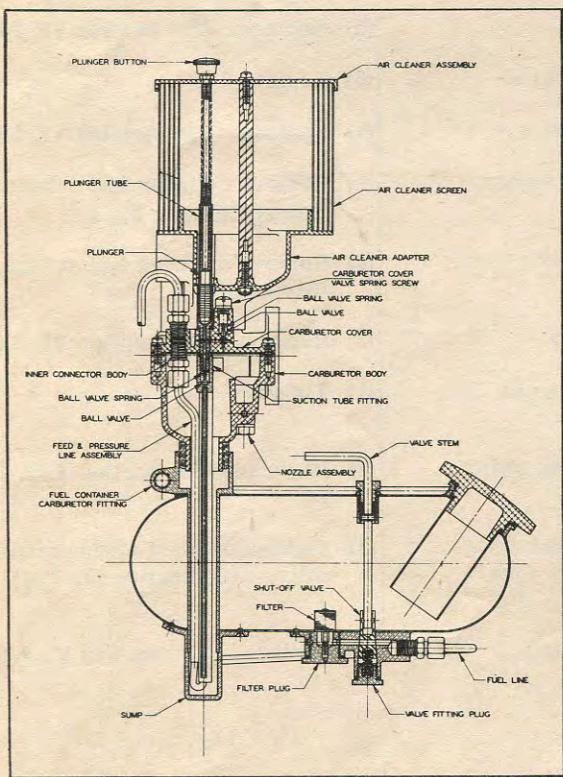

Figure 4 - Carburetor and Fuel Container Assembly
(b) Increasing the number of holes in the baffle necessitates larger drill holes in the side of the carburetor nozzle. (See figures 4 and 5.) The size of the drill hole is stamped on the hex head of the nozzle. Replace with nozzle stamped two numbers lower or drill out two drill sizes larger.
(4) Magnet. - In normal use the magnet will retain its magnetism indefinitely, and therefore, no trouble should be expected from this source. For recharging, return to depot.
(5) Lubrication. - The magneto should require no lubrication for a long period of service. For cam lubrication place a small amount of fiber grease on the cam follower breaker arm every 100 hours of operation.
c. Carburetor Assembly and Fuel Container. (See figure 4.)
(1) Type. - The carburetor is a fixed jet type and requires no adjustment.
(2) Operating Principle. - Fuel is fed to the carburetor from the fuel container sump by crankcase pressure which forces the fuel through the feed line inside the carburetor to the venturi where it is vaporized and drawn into the cylinder.
(3) Priming Pump. - Choking or priming the carburetor is accomplished by pulling up and releasing the black plunger button above air cleaner on the priming pump assembly. If the engine fails to start (providing the fuel shut-off valve is open) the priming pump may not be delivering fuel to the carburetor. To check this, take out screw holding air cleaner adapter to carburetor body, lift up air cleaner assembly to clear collar on carburetor body, and rotate approximately 180 degrees. The carburetor bowl is then exposed to view. Operate pump two or three times and observe if fuel is delivered, lift off the air cleaner assembly, and put a few drops of oil in tube. Replace and recheck. If pump still does not operate, remove pressure line from carburetor cover and take off cover. Disconnect suction tube fitting on under side of cover, using care not to lose the ball valve and spring within this fitting. Clean and reassemble by replacing ball first and then spring, tapered end down. Also remove carburetor cover valve spring screw and clean ball valve and seat. Reassemble ball and spring the same as in the suction tube fitting. If pump does not work after reassembly, see following instructions, paragraph (5).
(4) Nozzle, Feed and Pressure Lines.